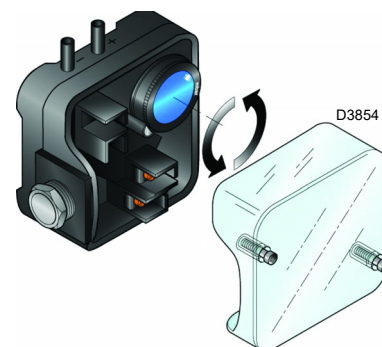

Fig. 49
- Adjust the air pressure switch (Fig. 49) to the start of the scale.
For the RLAS 800 burner model, the air pressure switch is connected in absolute mode and is activated by the positive pressure from the fan (Fig. 49).
For the RLAS 650 burner model, the air pressure switch is connected in differential mode and is activated by the positive pressure from the fan and a negative pressure from the burner air setting (Fig. 49 and Fig. 5, page 11).
Adjust the air pressure switch (Fig. 49) after having performed all other burner adjustments with the air pressure switch set to the min. of the scale.